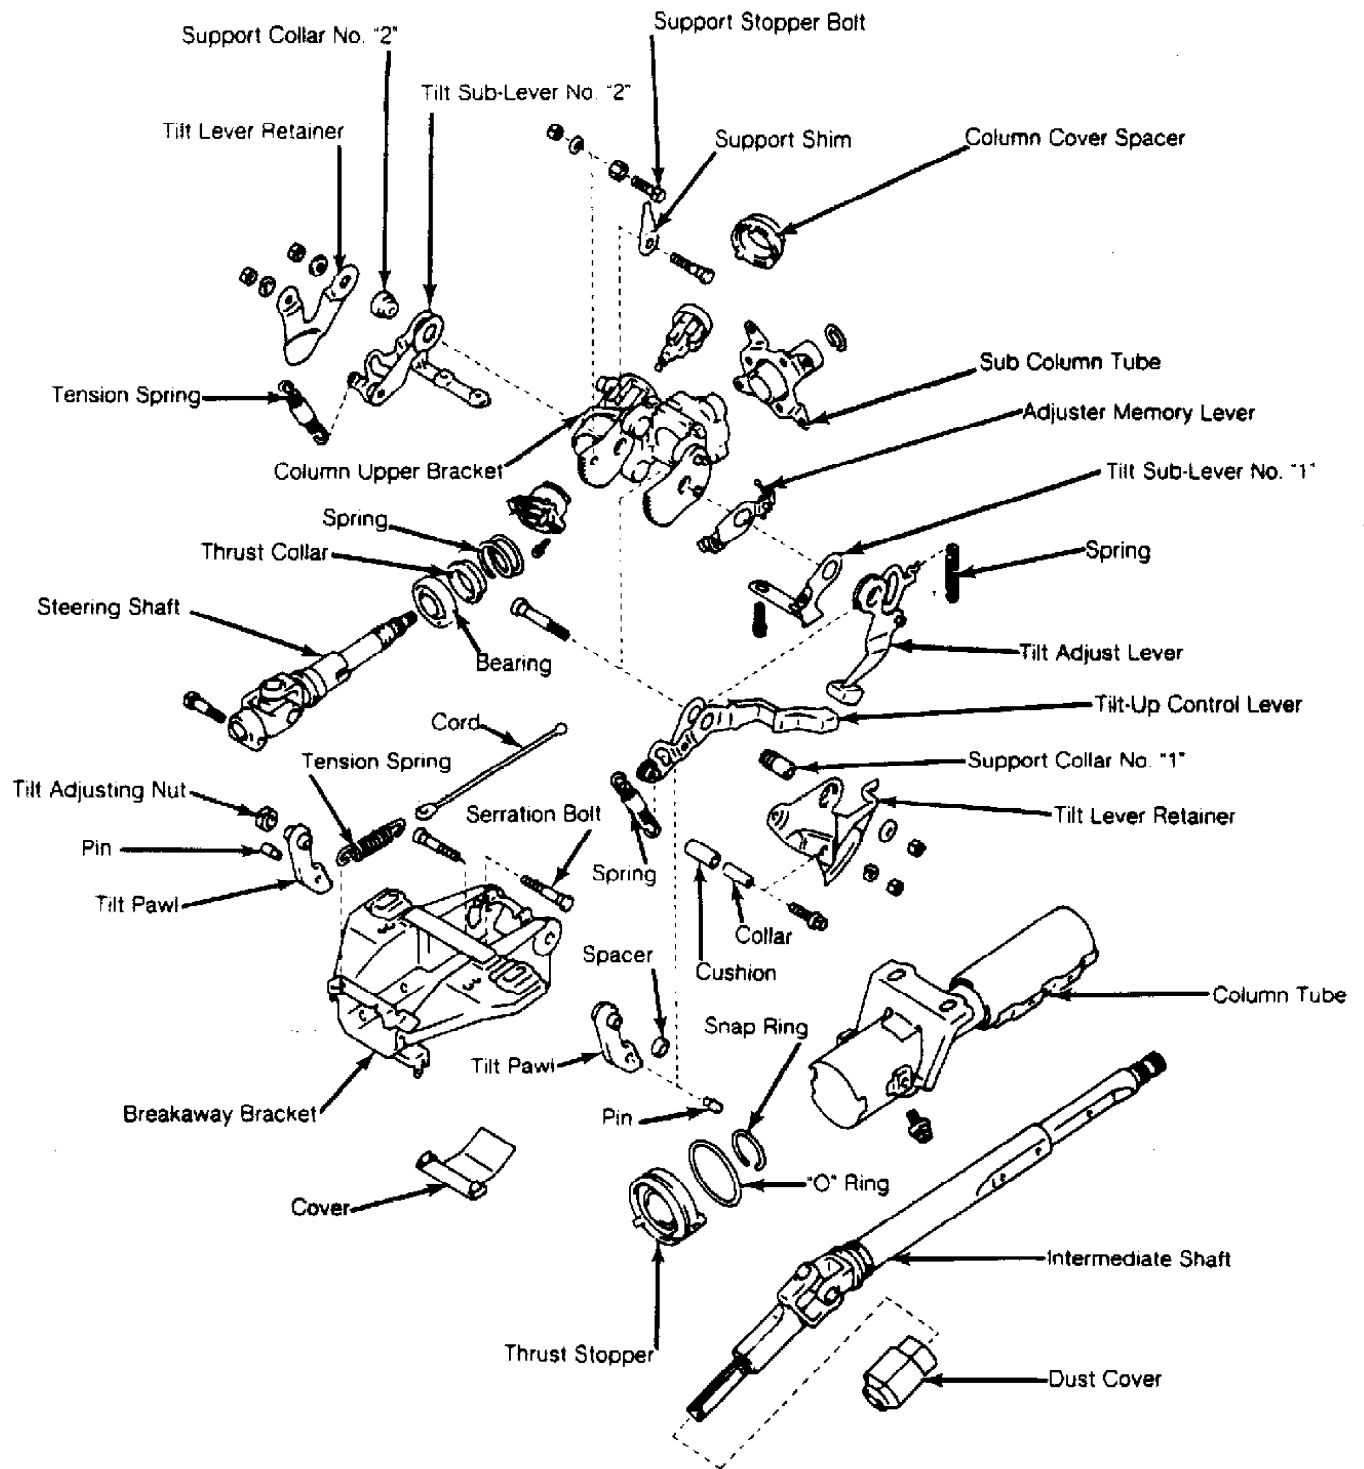

Fig. 2: Exploded View of Celica, Cressida & Supra Steering Column Assembly
5) Use new "O" rings where needed. Install adjuster memory cover to upper bracket. Install pawl set bolt. Tighten pawl set bolt or nut (if equipped) to 14 ft. lbs. (19 N.m). See Fig. 2.